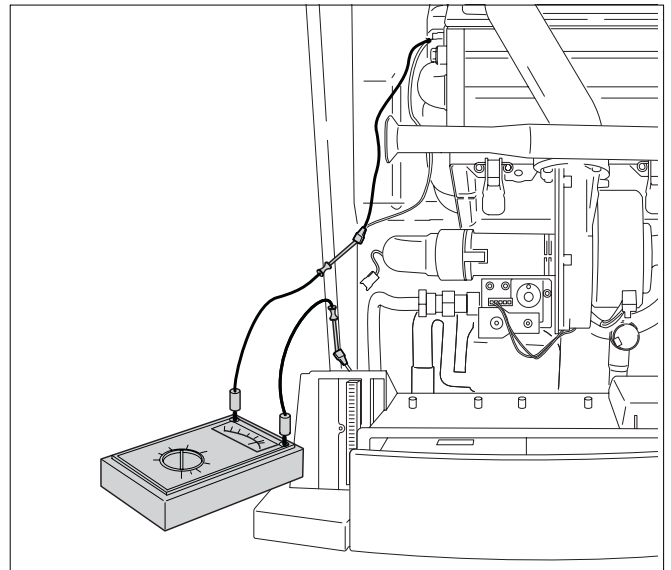

Fig. 64 Testing the ionization current
- Connect the measuring device in series (see fig. 64).